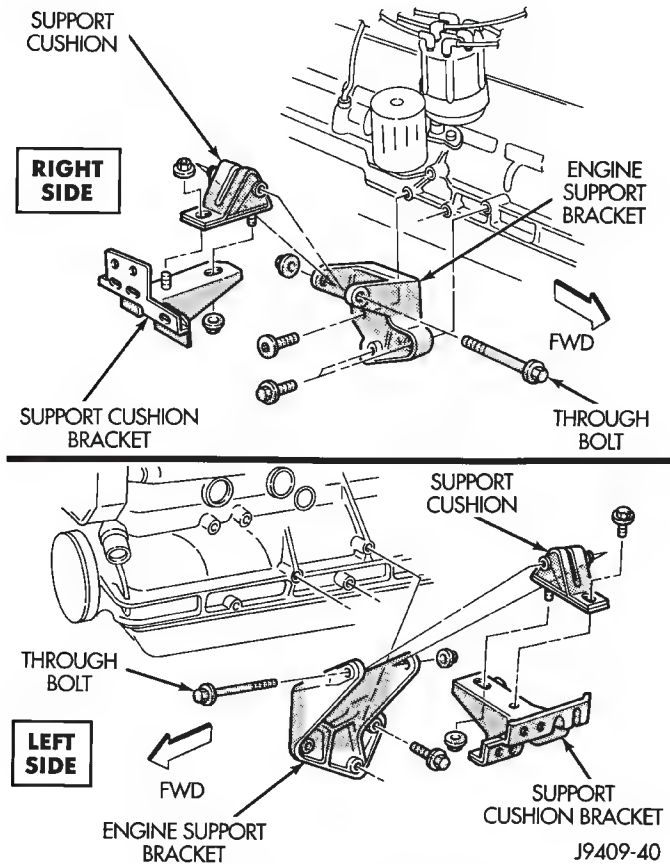

Fig. 6 Front Mounts—XJ Vehicles
- (1) Disconnect negative cable from battery.
- (2) Raise the vehicle.
- (3) Support the engine.
- (4) Remove the nut from the through bolt (Figs. 6 and 7). DO NOT remove the through bolt.
- (5) Remove the retaining bolts and nuts from the support cushions (Figs. 6 and 7).
- (6) Remove the through bolt.
- (7) Remove the support cushions.
- (1) If the engine support bracket was removed, position the bracket onto the block and install the attaching bolts (Figs. 6 and 7). Tighten the engine support bracket bolts:
- (3) Place the support cushion into position on the support cushion bracket (Figs. 6 and 7). Install and tighten the bolts and nuts:
- (4) Install the through bolt and the retaining nut (Figs. 6 and 7). Tighten the through bolt nut: